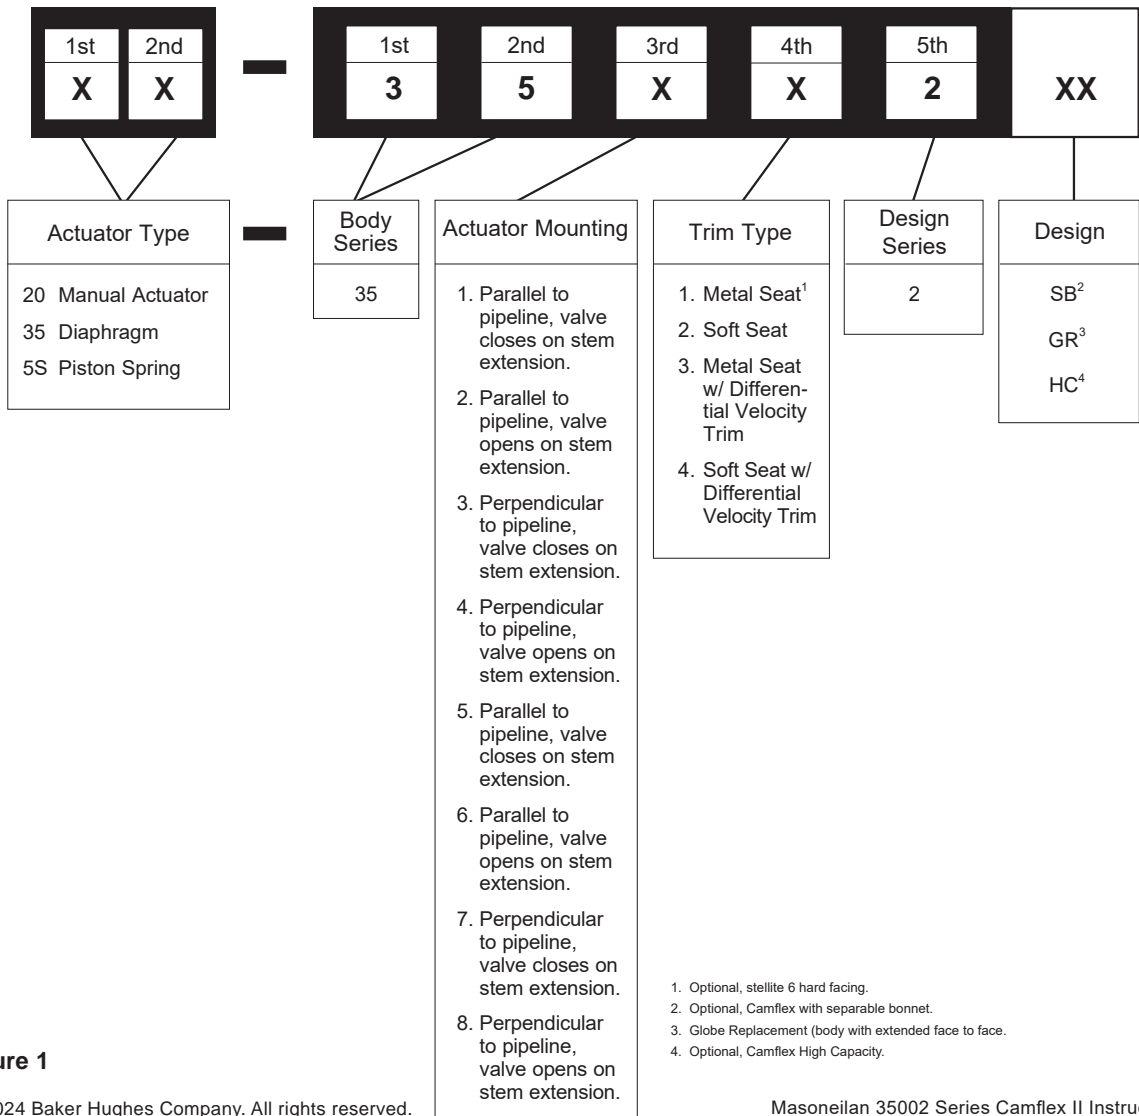

Figure 1
These installation and maintenance instructions apply to 1" through 16" sizes (DN 25 through 400 sizes), all available ratings, and pneumatic actuators. The model number, size and rating of the valve are shown on the serial plate. Refer to Figure 1 to identify the valve model.
- Check the model number on the serial plate (56) against the numbering System described in Figure 1 to determine valve configurations.